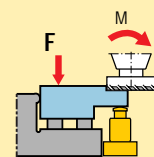

Figure 5c: Correctly located workpiece.
Figure 5c shows how to locate a workpiece correctly. To avoid tilting the workpiece, the torque "M" transferred from the workpiece (5) to the body to be machined (6) must be balanced by an appropriate counter-torque. This counter-torque is created by the clamping force "F."